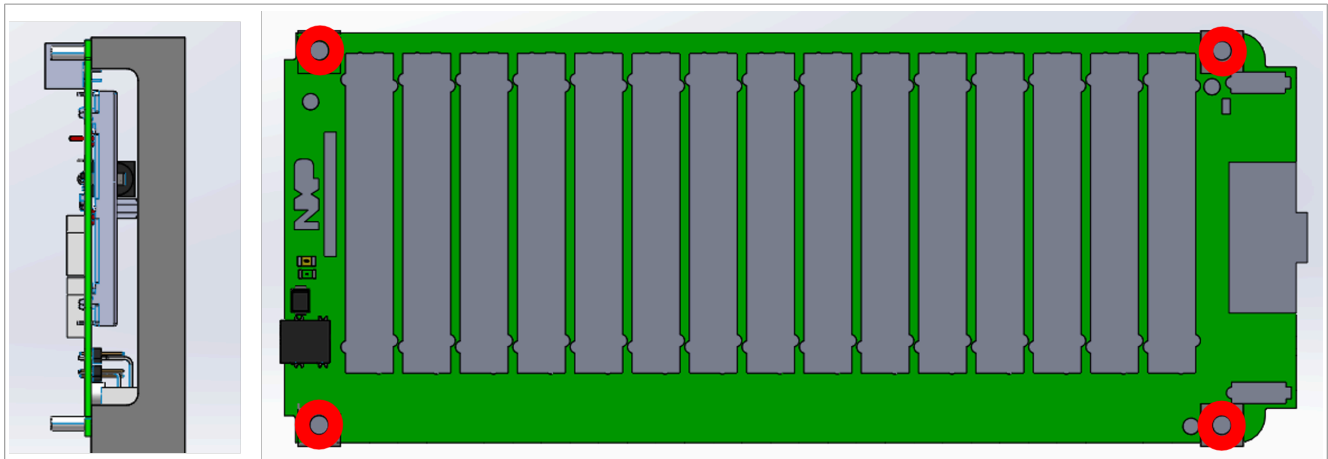

Figure 14. Battery emulator mounting procedure
1. Mount the battery emulator to the 78 mm side parts using four screws (280-76355) according to Figure 14.